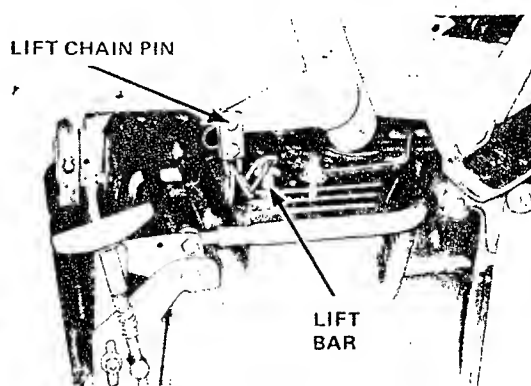

FIGURE 2
5. Place the tractor lift lever in the back position and attach the lift chain to the lift lever using the pin and spring clip. (See Figure 2).